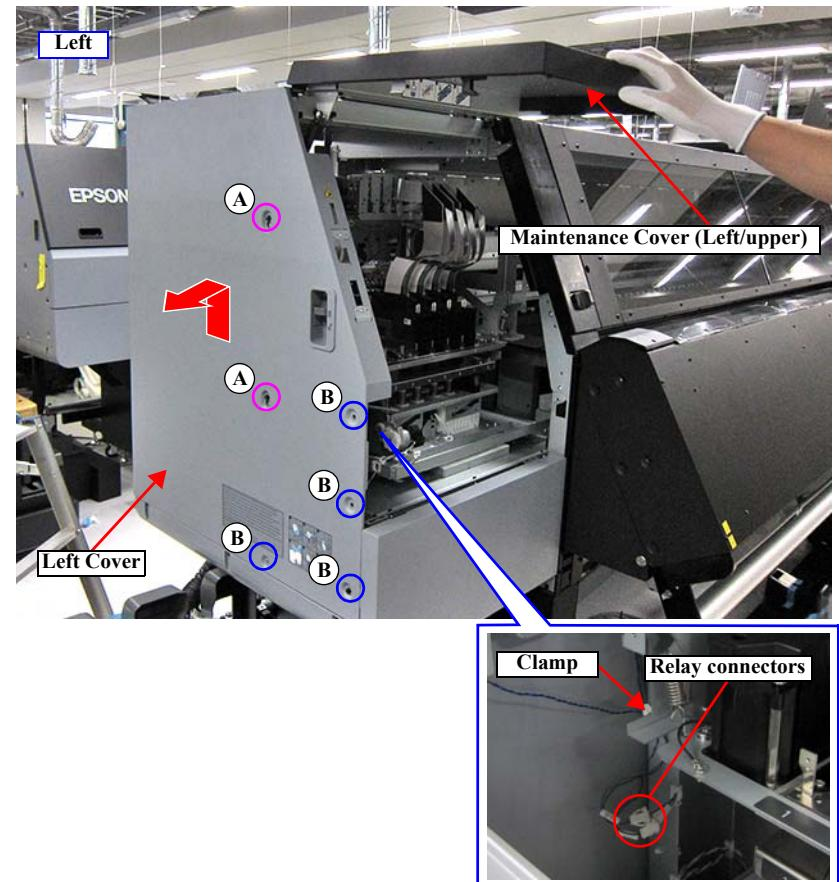

Figure 3-25.
3. Open the Maintenance Cover (Left/Upper) to the position indicated in Figure 3-25.